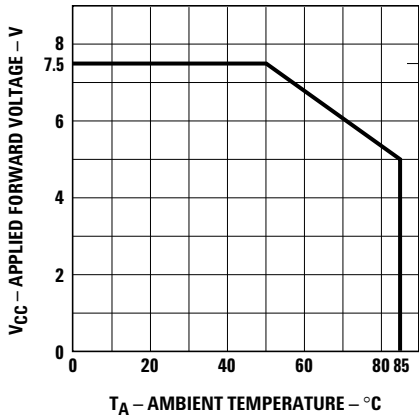

Figure 3. Maximum allowed applied forward voltage vs. ambient temperature $R\theta_{JA} = 175^{\circ}\text{C}/\text{W}$. 5 volt devices.
- Derate from $T_A = 50^\circ\text{C}$ at 0.071 V/°C, see Figure 3.